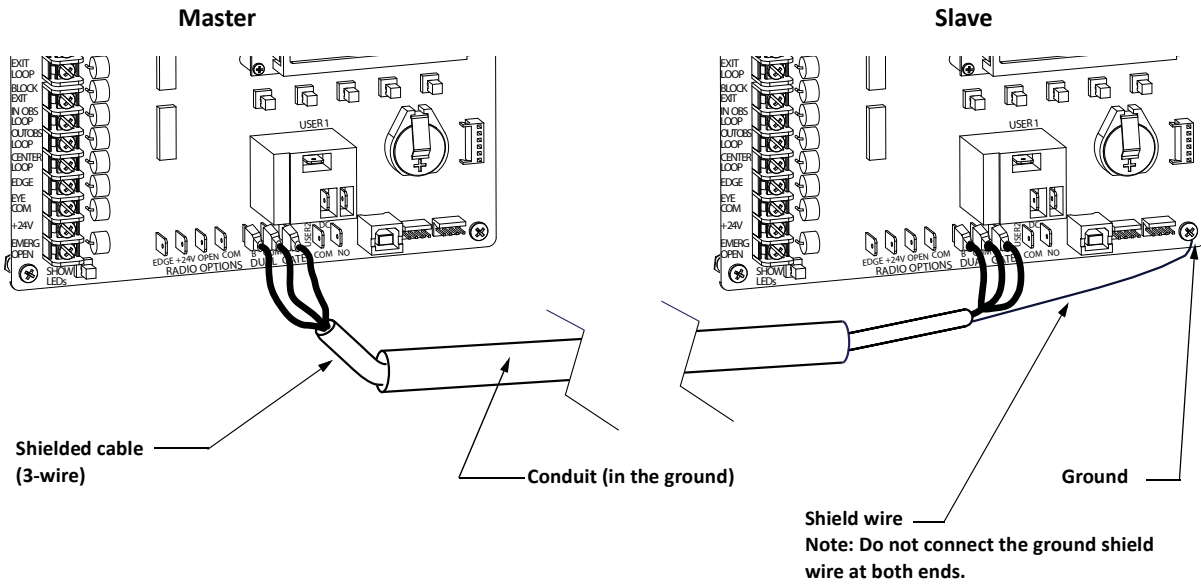

Figure 5-2.
- An electrical conduit for interconnecting wires must span between the two operators. The master-slave communication wires and any low voltage control wires must be installed in a conduit that is separate from the high voltage power wires. See Figure 5-2.
1. As shown in Figure 5-2, connect a shielded communications cable to the DUAL GATE inputs in each unit. The inputs are located near the base of the Smart DC Controller. Be sure to connect the wires in pairs to the same terminal ports (A-A, B-B, and COM to COM) on both units. See Table 5-1.
2. Attach a ring terminal to the shield wire and connect it to the Smart DC Controller’s convenient ground screw. Refer to Figure 5-2.